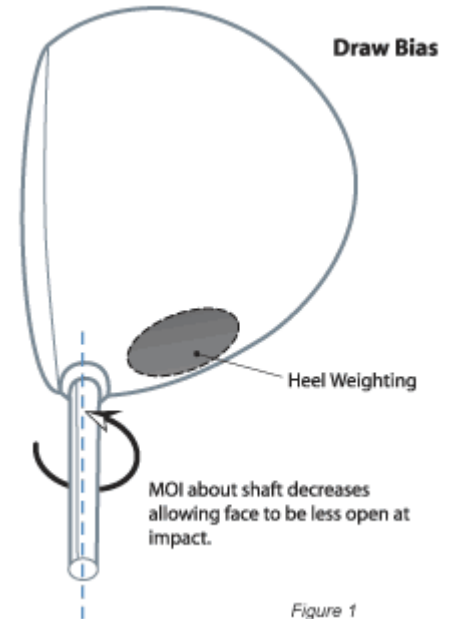

Figure 1
1. By reducing the Moment of Inertia (MOI) of the head about the shaft axis or hosel. There are two important MOI's in the clubhead. First, the MOI about the axis of the Center of Gravity (CG) of the head, and second, the MOI about the axis of the hosel bore, i.e. the shaft centerline. MOI about the CG of the head has to do with allowing the head to be "more forgiving" from an off-center hit. MOI about the shaft has to do with the golfer's ability to rotate the entire head back to square during the downswing, before impact with the ball. Thus by adding more weight to the heel area of the clubhead, the MOI of the head is reduced, which makes it easier for the golfer to rotate the head from open to square or possibly even more closed, before the clubhead makes impact with the ball. For a person who slices the ball, adding weight to the heel allows them to deliver the club face less open and thus help reduce the amount of slice or fade on the ball. (see fig. 1)